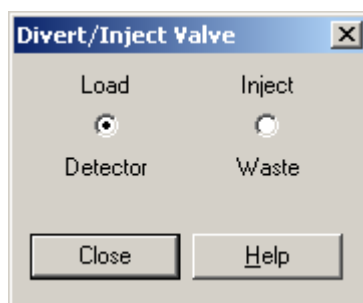

Figure 66. Divert/Inject Valve dialog box
- a. Click **Divert/Inject Valve** to display the Divert/Inject Valve dialog box. See Figure 66.